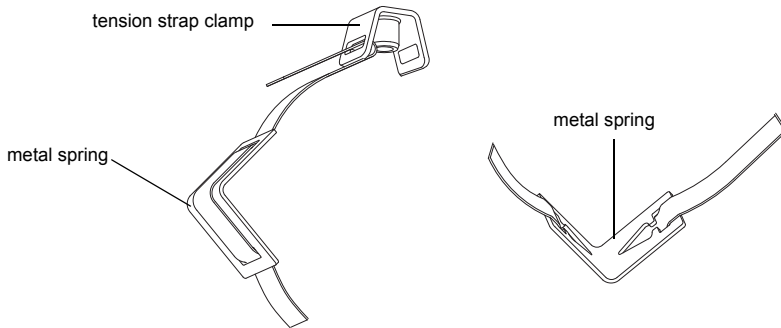

Fig. 7.25: Tension strap with the metal spring and the tension strap clamp
- If necessary, insert the long end of the tension strap in the metal spring (see Fig. 7.25). It is not necessary to mount the metal spring: